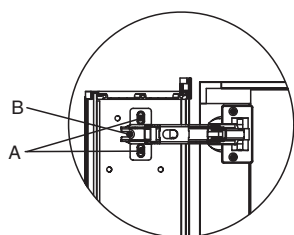

Fig. 7 图7
- This screw releases the door from the cabinet and allows up and down adjustment. Fig.7-A & 8.
此螺钉松开可将门卸下，并可作上下的位置调整，如图7-A、8所示。
- These screws allow you to plumb the door as shown in Fig.7-B & 9.
这些螺钉松开可将门作如图7-B、9所示的前后的位置调整。